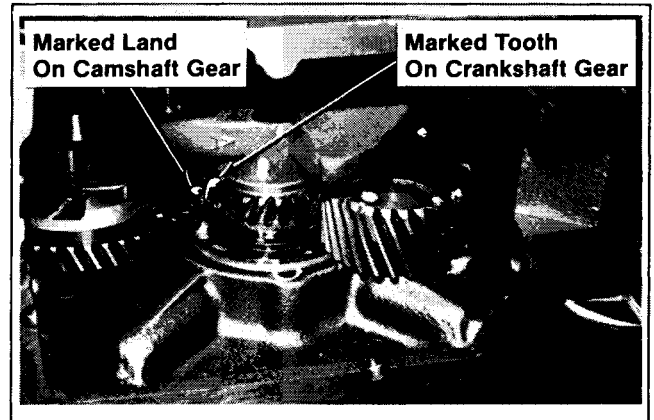

Figure 12-22. Aligning Camshaft Gear And Crankshaft Gear.
- Align the fifth (5th) land marked on camshaft gear with the fifth (5th) tooth marked on crankshaft gear. Refer to Figure 12-22.